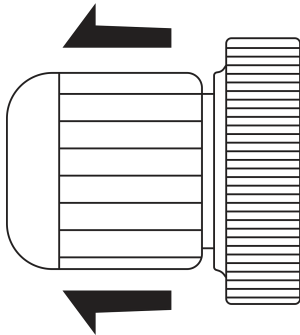

Fig 1. Water Pressure Regulator
- To adjust the water pressure regulator, pull the knob outwards (**Fig 1**). You should feel and hear a click as it comes out. Twist it clockwise (to increase the pressure) or anti-clockwise (to decrease the pressure), depending on what needs to be done (**Fig 2 & 3**).